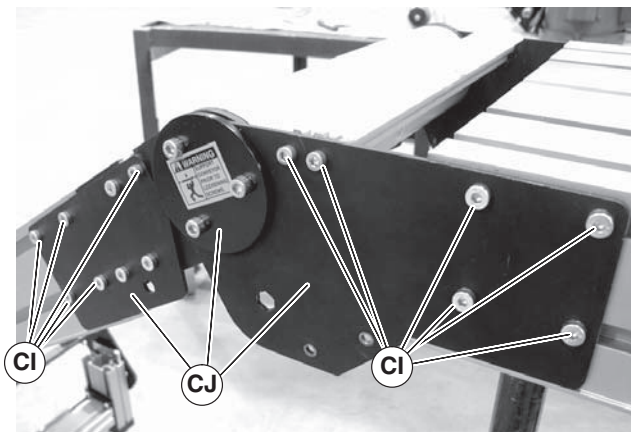

Figure 75
- On one side of knuckle, remove screws (Figure 75, item CI) and knuckle plate assembly (CJ).